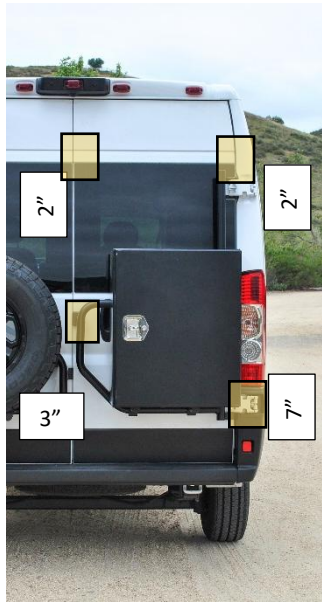

Figure 1: Locations of Protective Film Application
6. Apply the protective tape to the outside of the door (Figure 1). At the upper and lower hinge location, leaving approximately ½" of tape overhanging to be wrapped around the edge of the door. Leave the tape overhanging for now.